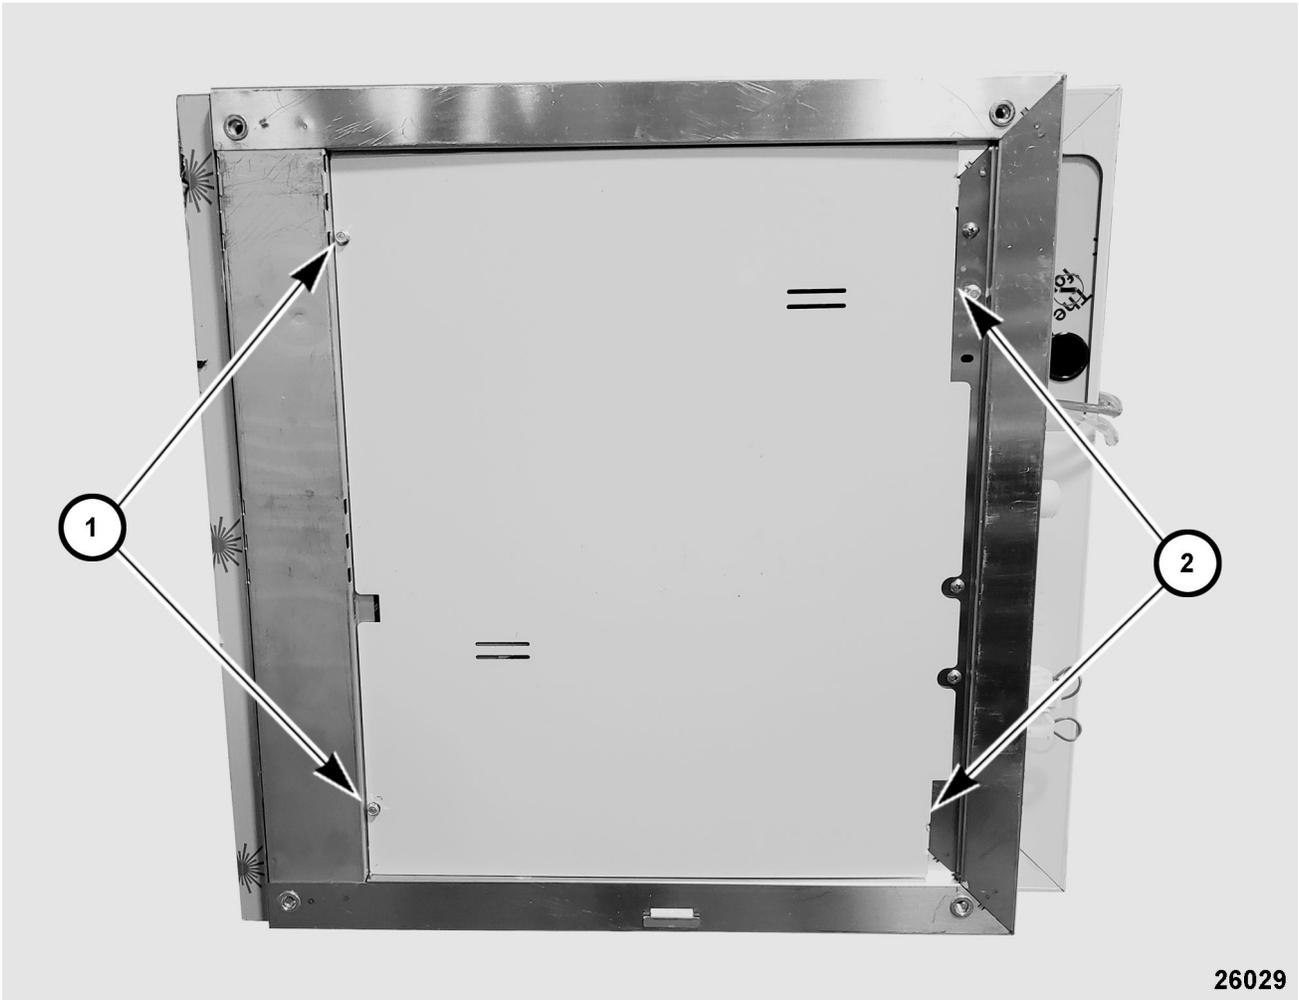

Fig. 6
3. Remove hardware (1, Fig. 6).
4. Slide panel away from slots (2, Fig. 6).